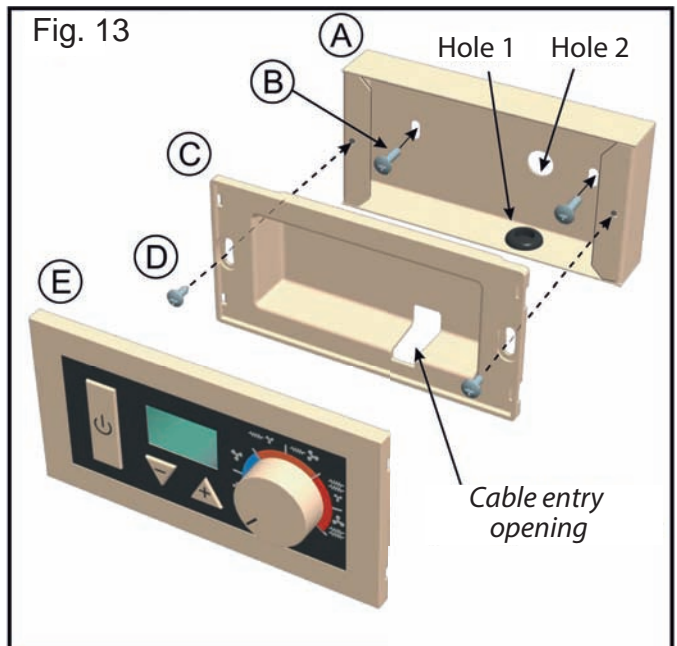

Fig. 13
- Route the power supply wires through their opening in the base of the box (Fig. 13), then screw the base to the flush-mounted box using the 2 screws (D).